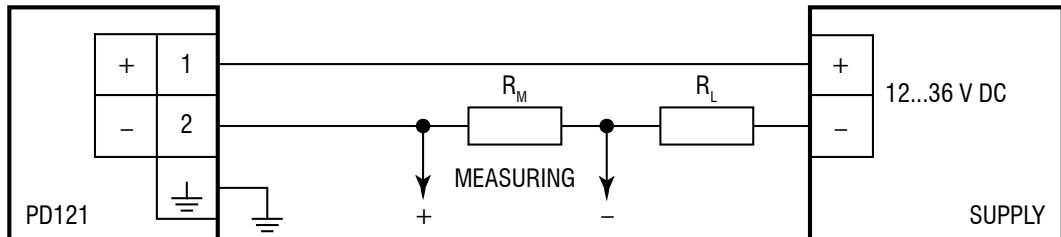

Fig. 4.1 Wiring diagram
The transmitter should be connected in accordance with the wiring diagram (Fig. 4.1) considering the load resistance requirements.
- Unscrew the cable gland (4) and take out the cable seal (3).
- Lead the cable through the cable gland (4) and the cable seal (3) in the enclosure (2).
- Connect the stripped wire ends to the screw terminals of the terminal holder (5) in accordance with the wiring diagram (Fig. 4.1) and screw the terminals in tight.
- Put the terminal holder (5) in the enclosure (2) and snap the connector seal (6).
- When screwing in the cable gland (4), make sure the cable gland with the cable seal (3) are assembled correctly and the cable seal is not damaged.
- Plug the socket (2+5+6) onto the contacts (7).
- Screw in and tighten the screw (1).